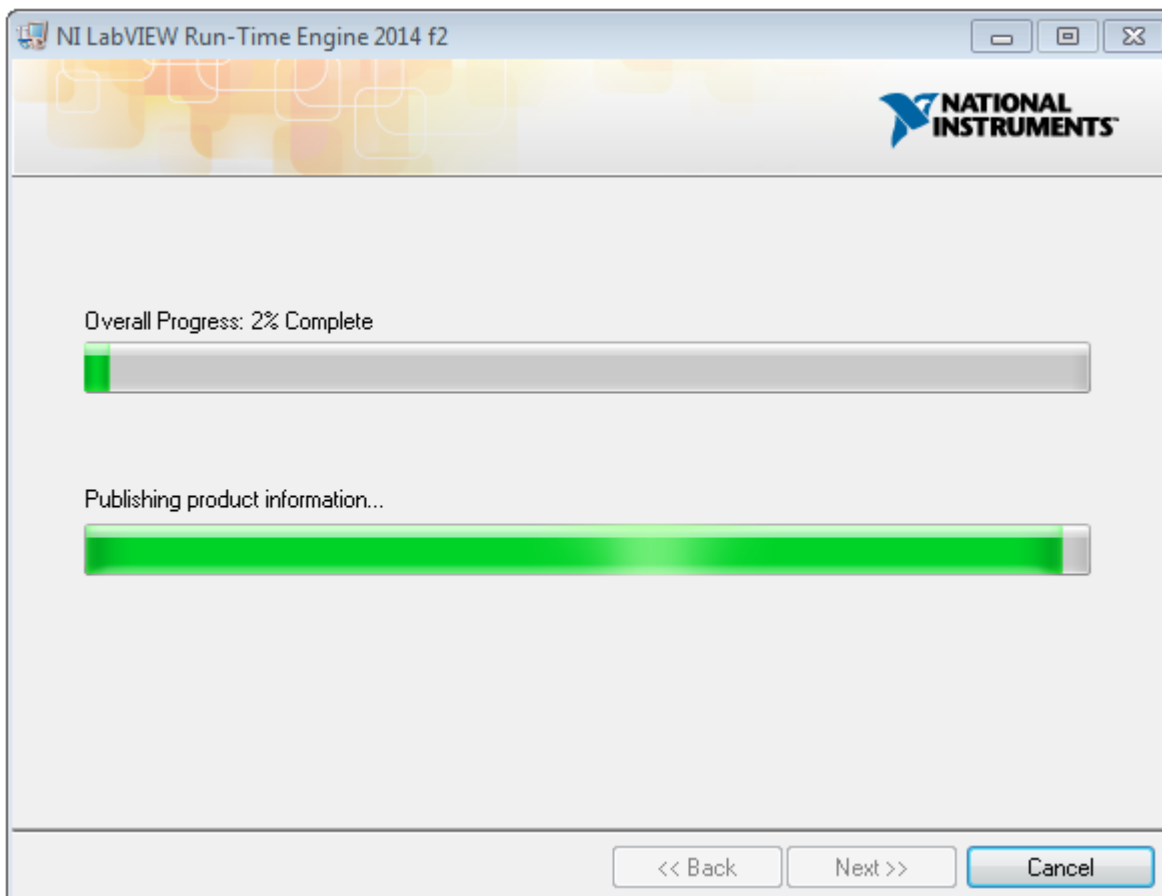

Figure 12. Installation of LabVIEW RTE in Progress
12. A display as shown in Figure 12 appears which indicates the progress of LabVIEW RTE installation.